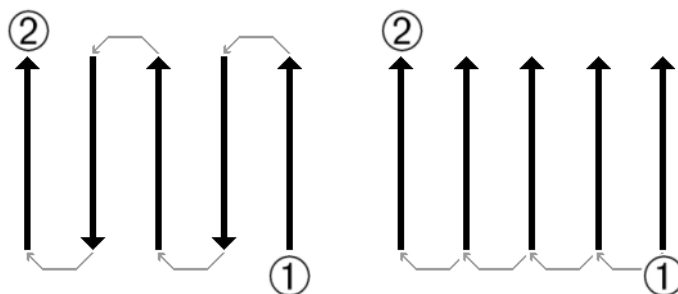

Figure 38: Given manner
Figure 38 shows all different ways of scanning in a scheme. The measurement starts at your starting point ① and ends at point ②.